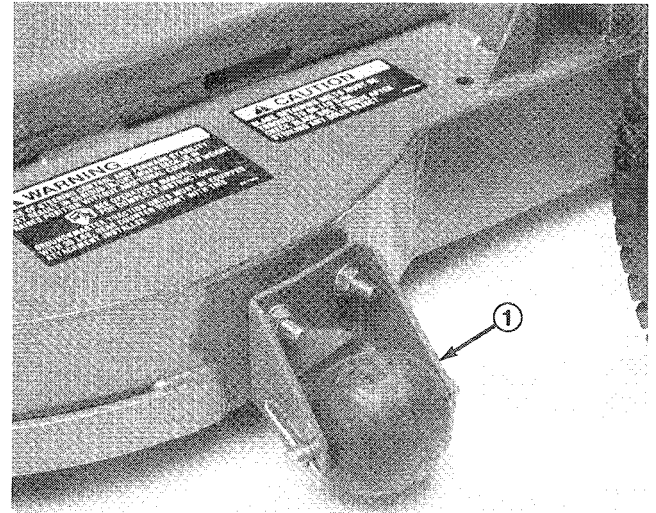

Figure 7
ADJUSTING ROLLERS (Fig. 7)
1. Remove capscrews and flange nuts securing roller bracket to deck (Fig. 7).